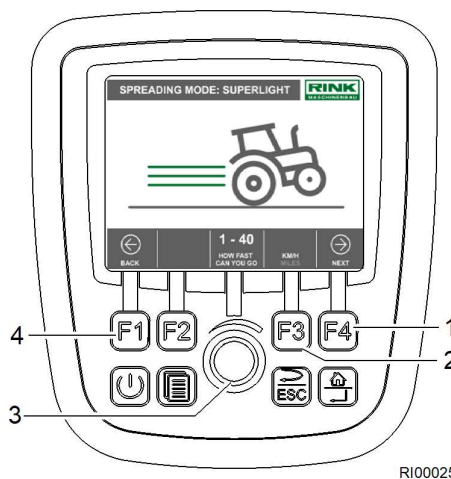

Fig. 36 Set driving speed
1. Turn the rotary control (Fig. 36/3) and set the desired driving speed for spreading operation.
3. If you want to switch between km/h and miles/h units, press the F3 button (Fig. 36/2). The unit is changed.
4. Press the F4 button (Fig. 36/1). The next menu is called up.
5. Press the F1 button (Fig. 36/4). The previous control menu is called up.